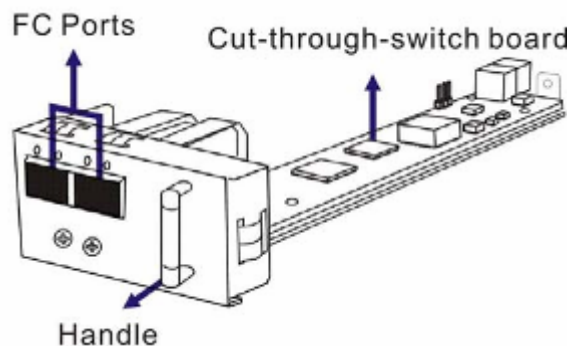

Figure 1-22: Host I/O Module
Host I/O modules are located along the upper edge of enclosure rear panel and are secured to the chassis by retention screws. (See **Figure 1-22**) Each module provides two (2) SFP sockets that receive 4Gbps optical transceivers. The Fibre Channel host ports receive 4.25/2.125GBd SFP, LC duplex type transceivers and then connect to LC-type cables.